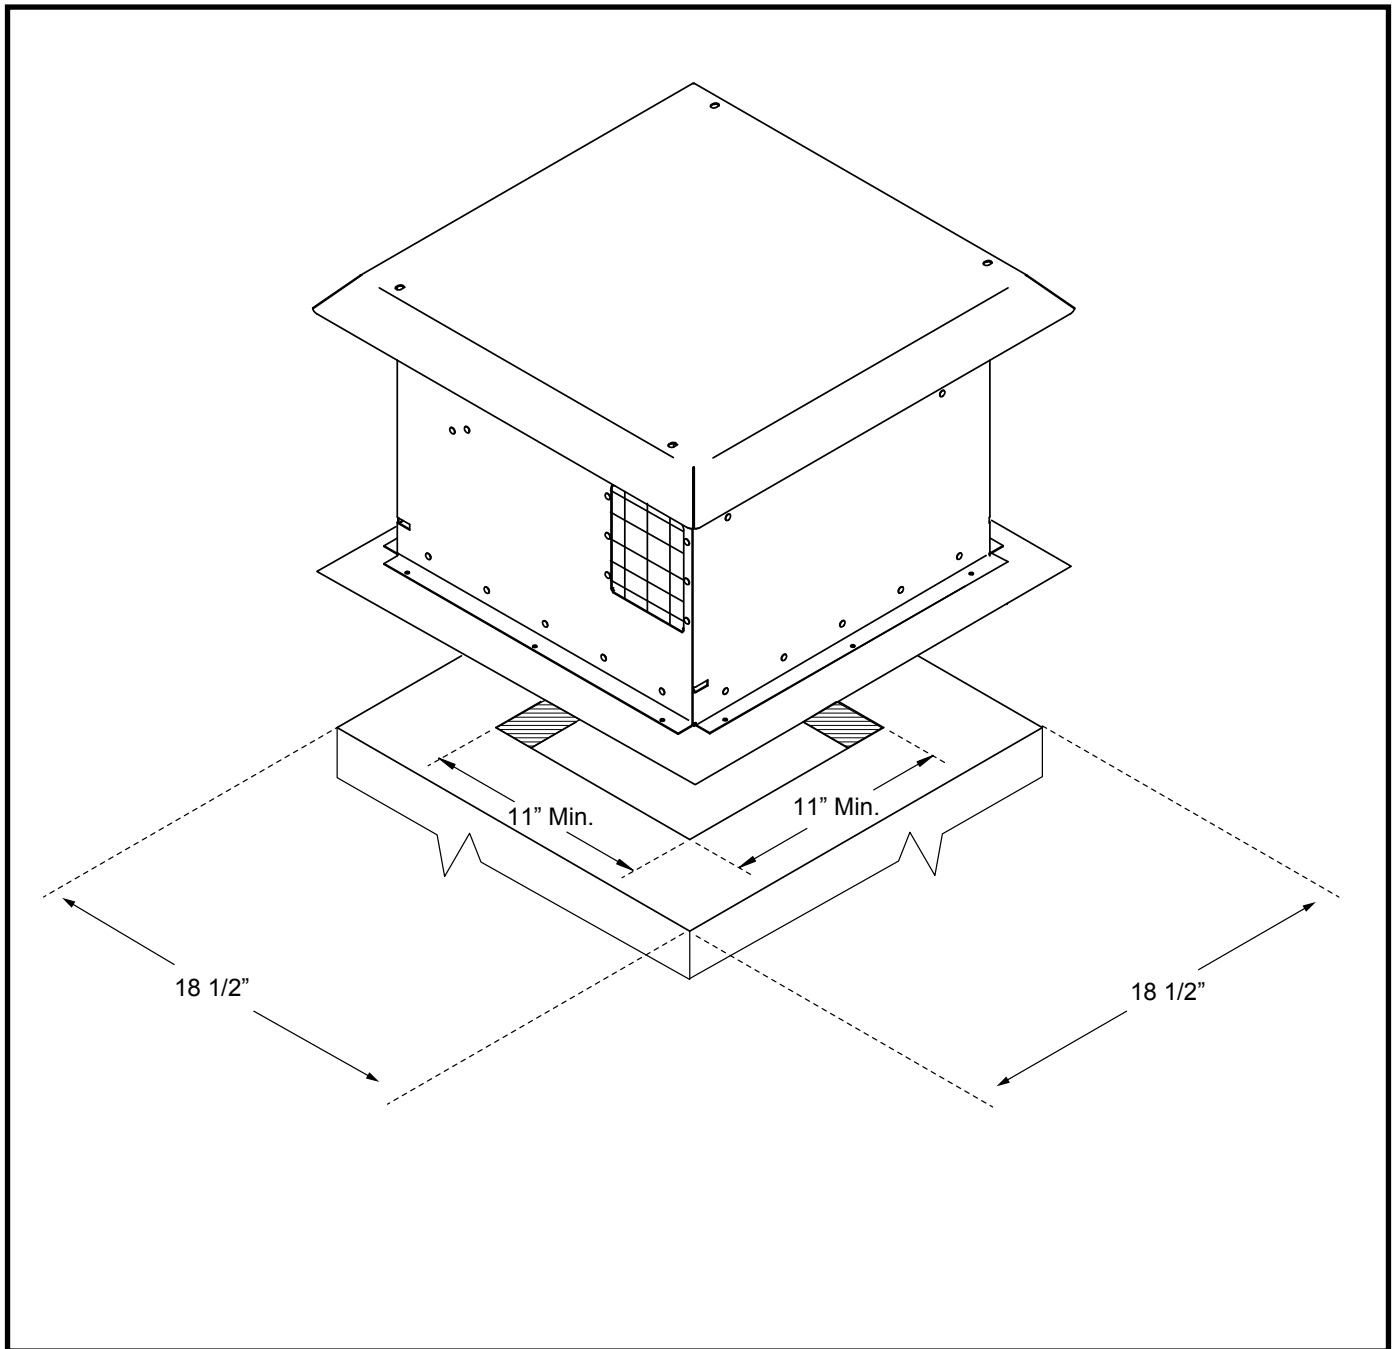

Figure 5: TCVT.PVVT Installation.
4. Seal and attach the power vent terminal base plate to the site fabricated chase as necessary to prevent moisture from entering the power vent unit. (Figure 5 on page 8) and flash according to local codes.